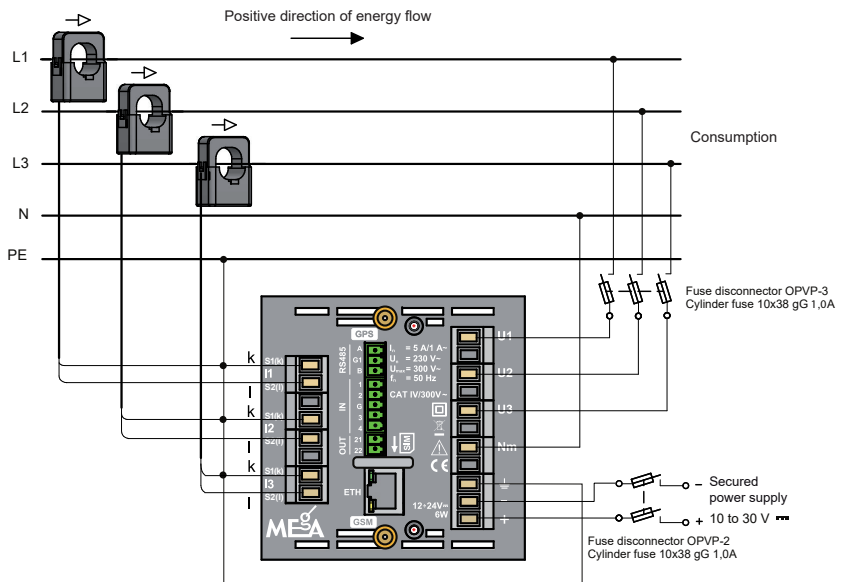

Fig. 24: Connection of MEg45PAN in a LV TN-C type network, current measurement by TORv or TORM toroids, category CAT IV 300 V
**TORm** and **TORv** toroids should be used if it is possible to disconnect circuits with measured currents. The toroids enable accurate measurements of even small currents. A **TORm** toroid with a hole for a conductor with the diameter of up to 6 mm can be used for primary current with the rated value of  $I_n = 1\ \text{A}$  or  $5\ \text{A}$  and a **TORv** toroid with a hole for a conductor with the diameter of 15 mm for  $I_n = 10\ \text{A}$  and  $50\ \text{A}$ . Toroids of both of these types meet the requirements of CAT IV 300 V. The connected MEg45PAN monitor has current inputs with the corresponding rated voltage. Thanks to their small dimensions, both types of toroids can be used for measurements in LV installations, refer to Figure 24.